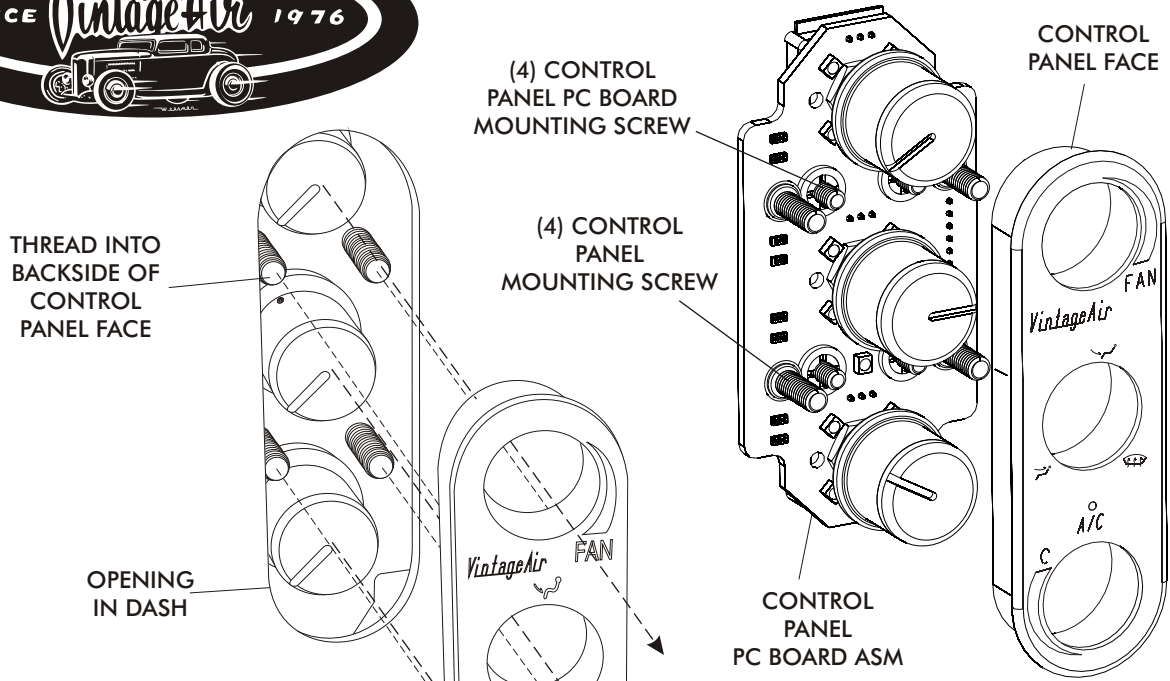

FIGURE 1
- INSTALL CONTROL PANEL FACE THROUGH OPENING IN DASH, PLACE CONTROL PANEL PC BOARD ASM BEHIND DASH AND SECURE TO THE CONTROL PANEL FACE USING THE (4) 8-32 x 3/8 PH SCREWS. SEE FIGURE 1, PAGE 5